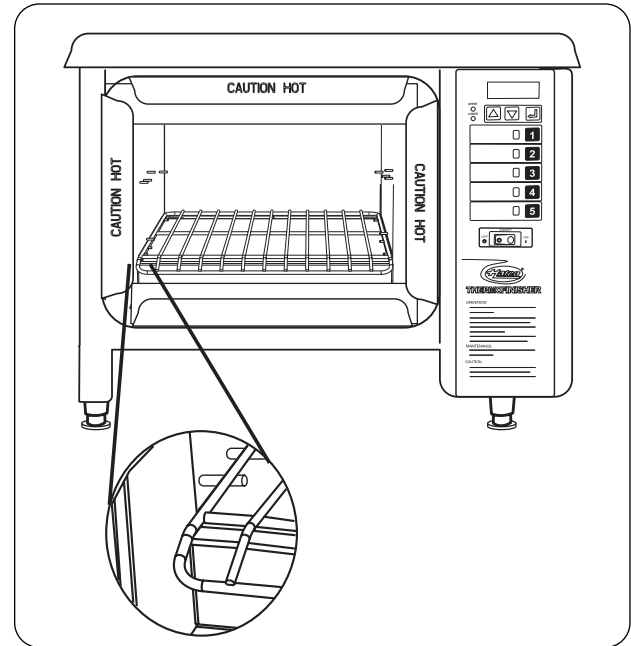

Figure 4. Rack Support Placement
4. The unit is equipped with both a top set and bottom set of pins for supporting the wire plate rack. Properly position the wire plate rack using either set, making sure the wire rack is placed between the three lower pins and the upper pin on each side. (See Figure 4).